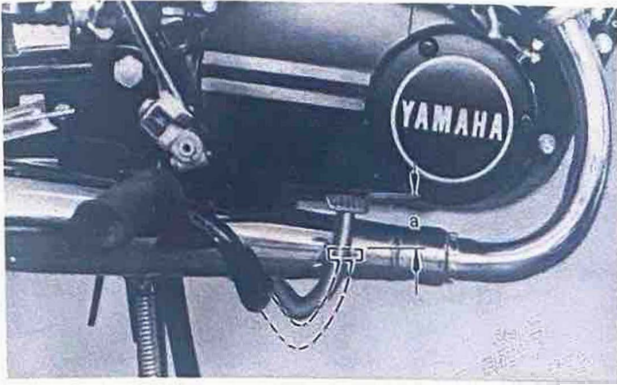

Fig. 55
7. Rear brake pedal adjustment (Fig. 55)